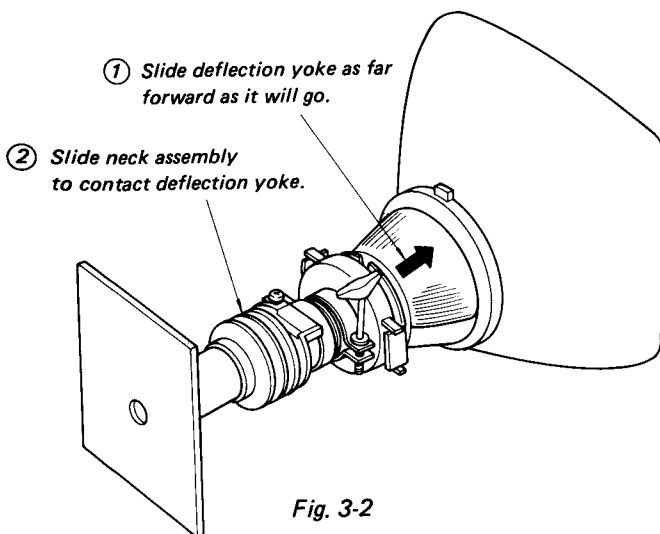

Fig. 3-2
- Set the three neck assemblies and the deflection yokes as shown in Fig. 3-2.